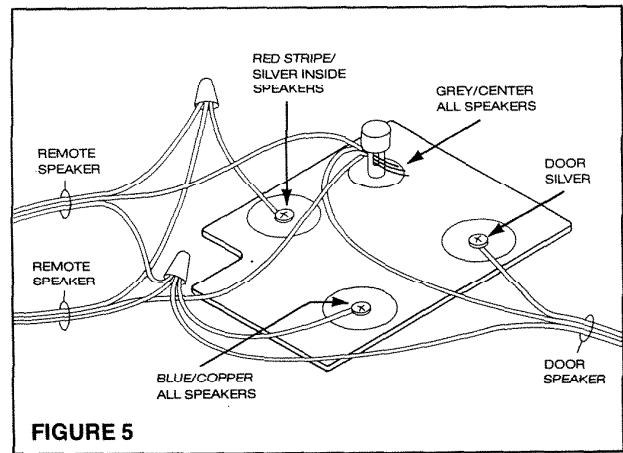

FIGURE 5
5. Remove the inside/patio speaker(s) and door speaker(s) flat (1WA-3) 3-wire cable from the master station's terminal board. Also remove, when used, the electronic chime and security alarm 2-conductor (1W-2) signal wires from the master station's terminal board. Label the door speaker(s) cables. (See Fig. 5)